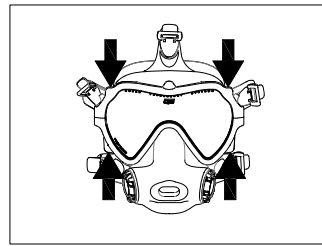

FIGURE 5
2. Install the lower and upper frames over the lens and skirt. Squeeze the upper and lower frames together as shown (Fig. 5).